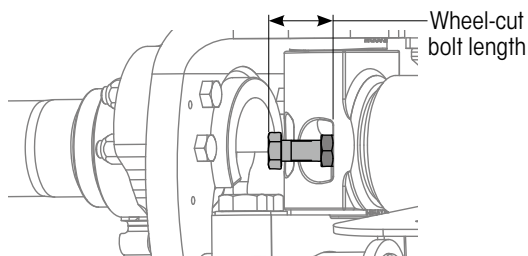

Figure 18: Wheel-cut bolt length measurement
- Measure** (Figure 18) and **record** current wheel-cut bolt length. Refer to Table 6 on page 18.
- Using wrench or socket 1, **remove** the draw key nut (Figure 18).